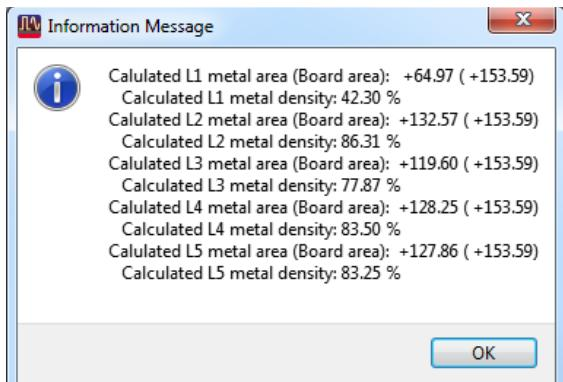

Figure 53 Metal Density Calculation Summary Window
2. The calculated Metal area and densities of L1 to L5 will be displayed (see Figure 53).
4. A window will pop that looks like in Figure 53